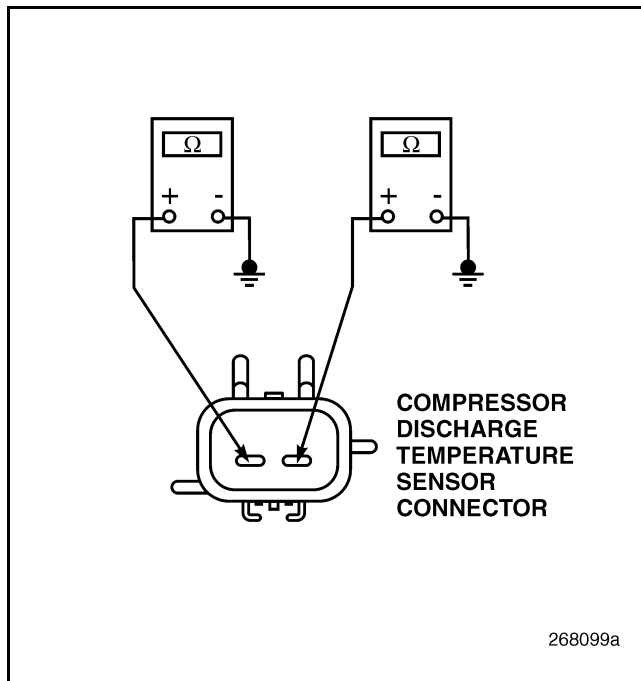

Figure 813
3. Check for continuity from either pin of the CDT Sensor to a good ground (see Figure 813).